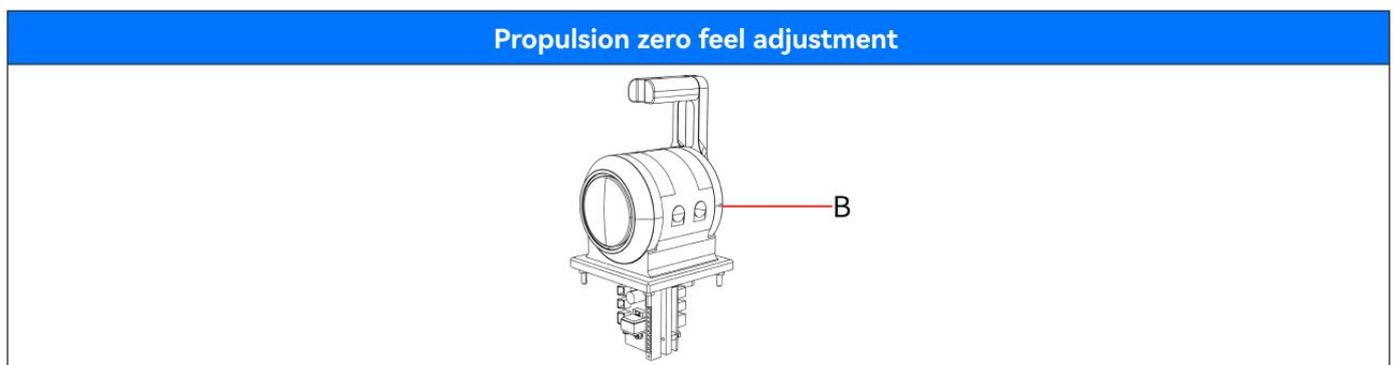

Figure 4.2
5. As shown in FIG. 4.2, use an Allen wrench at B to rotate and adjust the strength of the push zero feel.